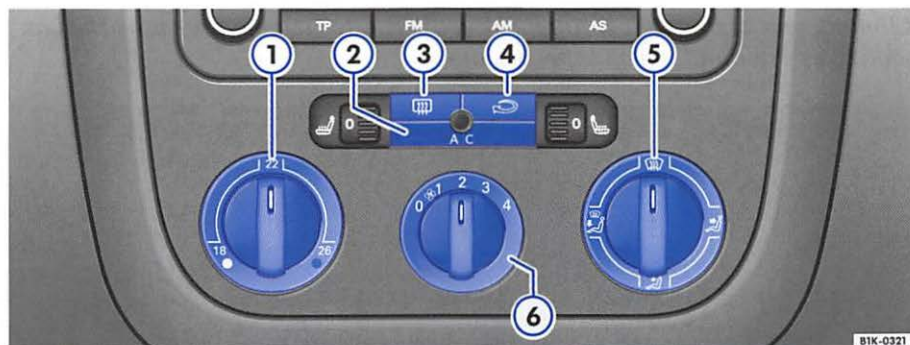

Fig. 73 In the center console: Climatic controls
- Using the controls ⇒ fig. 73 ①, ⑤ and ⑥ you can set the temperature, air distribution and the fan speed.
- To switch a function on or off, press the appropriate button ② to ④. When a function is switched on a light in the button comes on.
- ① Temperature ⇒ page 76
- ② button – switch on / off air conditioning. When the indicator light in the button comes on, this means the air conditioning is switched on. When the indicator light in the button goes out, the air conditioning switches off to save fuel. At low outside temperatures and with the air conditioning switched off, heating performance will be less after the engine is started.
- ③ Button rear window defogger with engine running – The rear window defogger